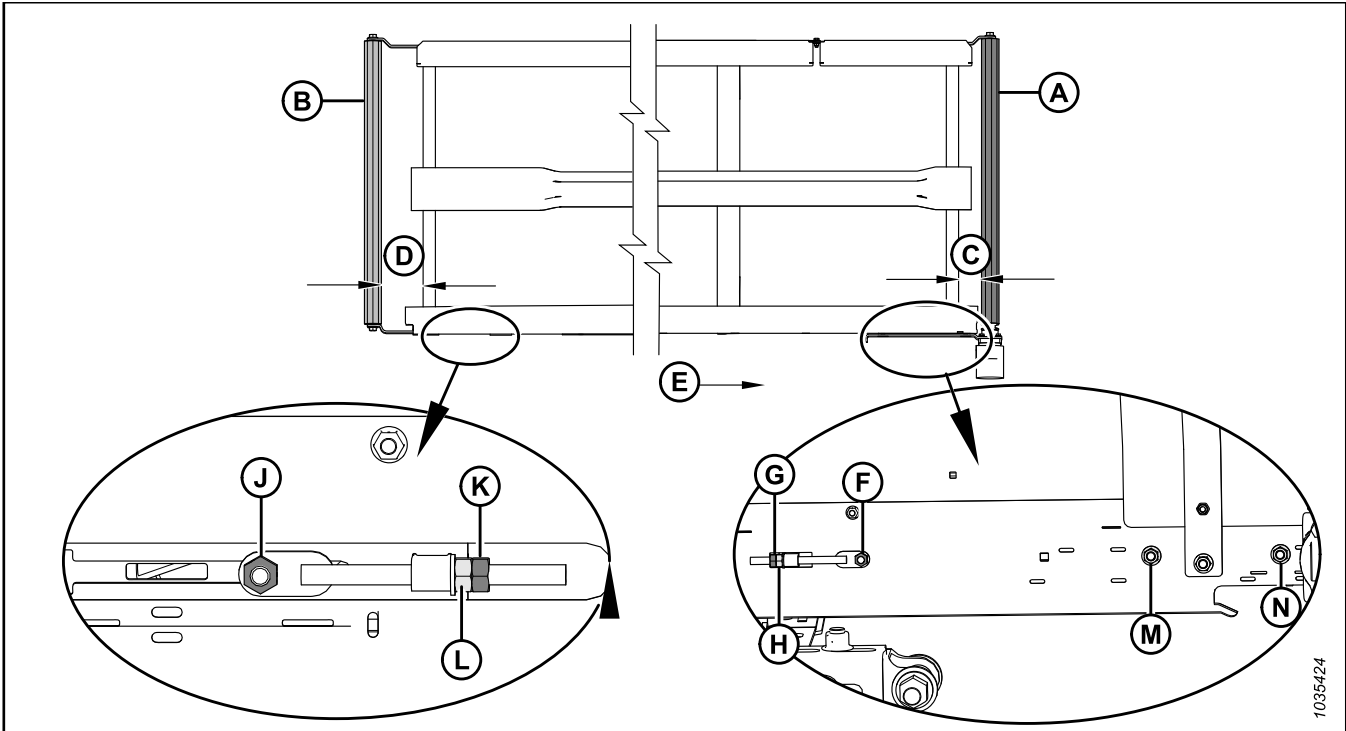

Figure 4.234: Draper Tracking Adjustments – Left Draper
2. Adjust drive roller (A) to change **C** (refer to Table 4.2, page 414 and Figure 4.234, page 414) as follows:
- a. Loosen nuts (F), (M), and (N), and jam nut (G).
- b. Turn adjuster nut (H).
- c. Tighten nuts (F), (M), and (N), and jam nut (G).
3. Adjust idler roller (B) to change **D** (refer to Table 4.2, page 414 and Figure 4.234, page 414) as follows:
- a. Loosen nut (J) and jam nut (K).
- b. Turn adjuster nut (L).